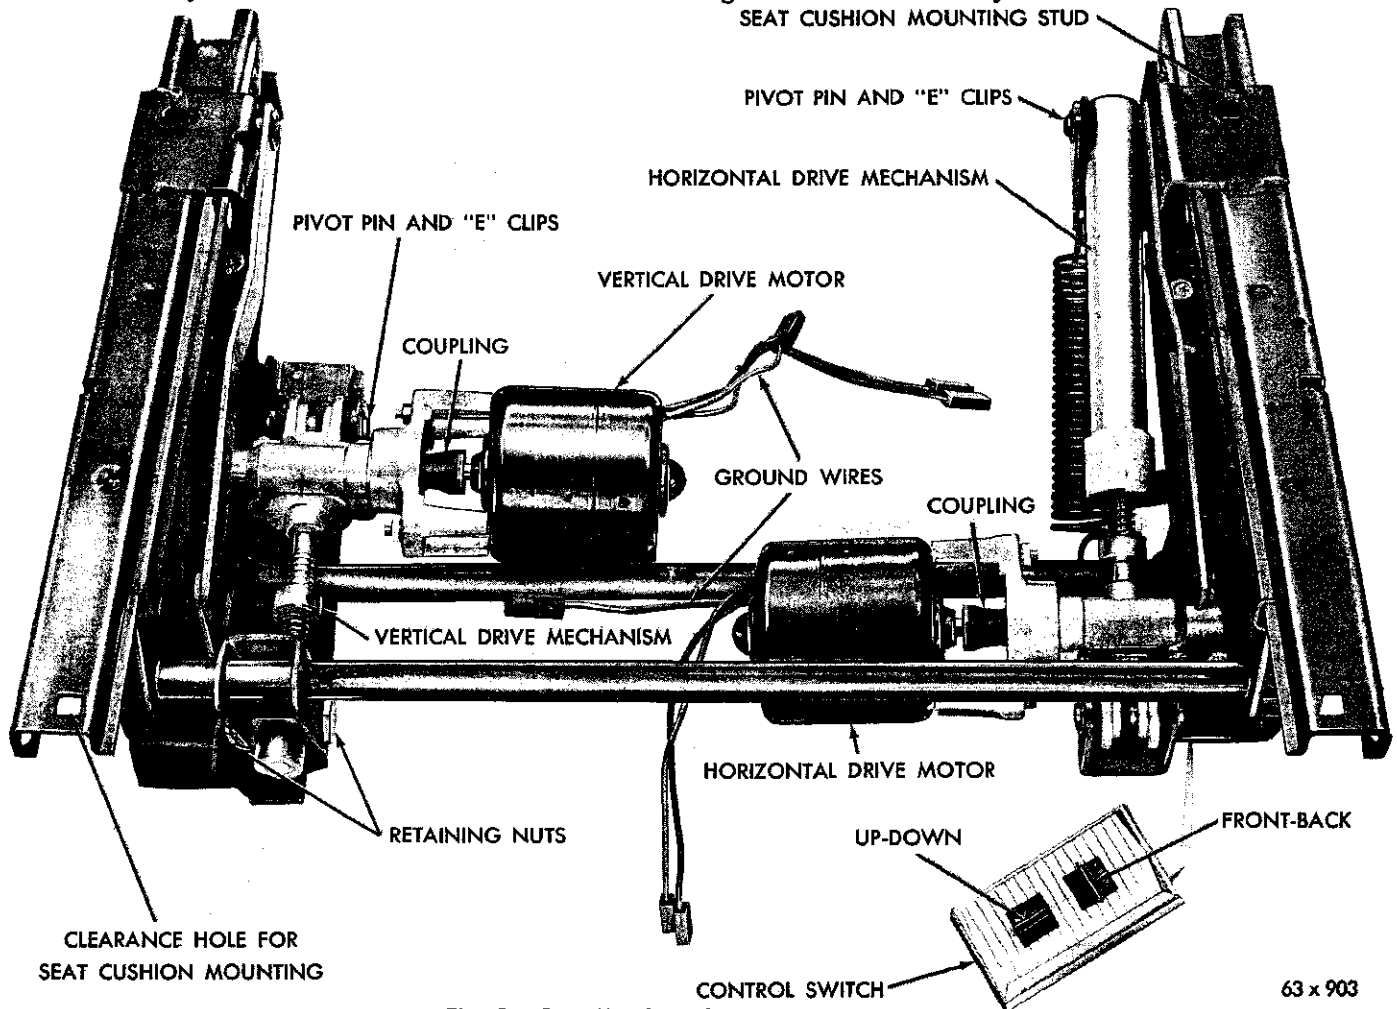

Fig. 1—Seat Track and Rails Assembly
The electric single seat for the Chrysler and Imperial models uses two electric motors (Fig. 1) to produce a front-back travel of 5 inches and an up-down travel of 1½ inches. The control switch is a two button switch, the vertical button for front-back
5. COUPLING—MOTOR TO GEAR HOUSING (Fig. 1)